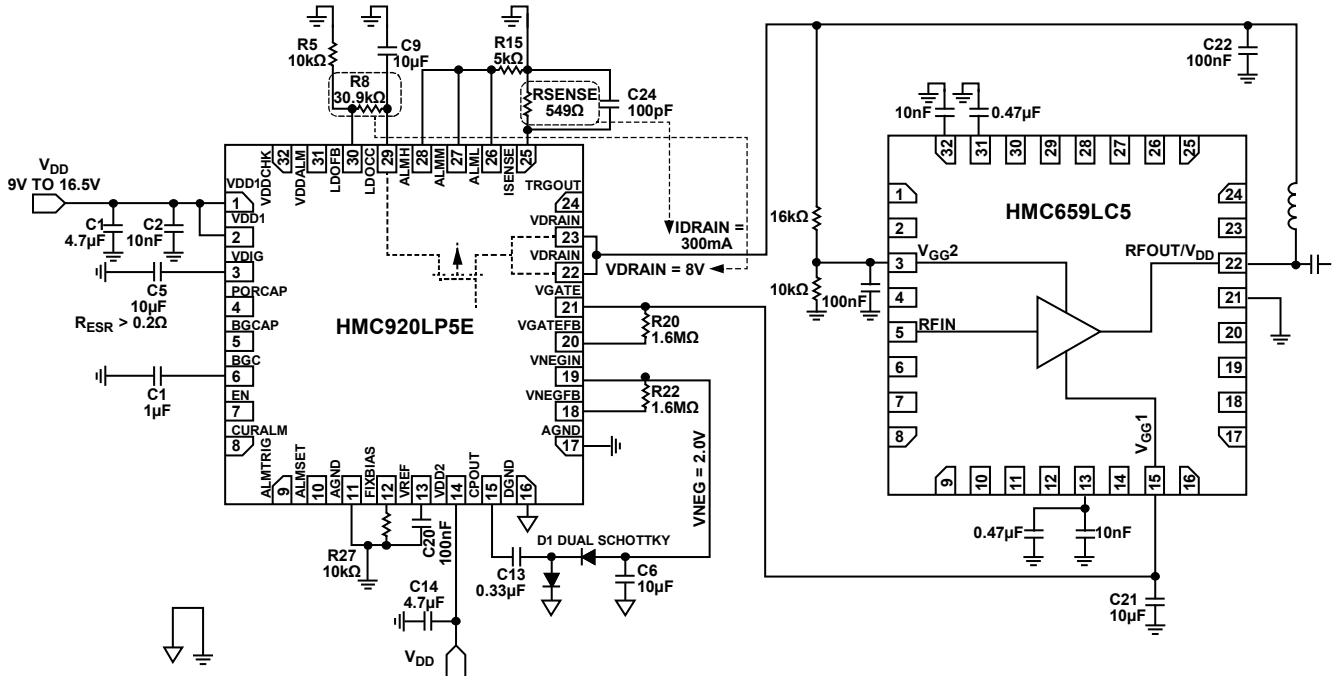

Figure 29. Application Circuit for Biasing the HMC659LC5 with the HMC920LP5E
- The shunt V_{GGX} capacitor values can be reduced to increase the rise time (see HMC659LC5 in Figure 29). Refer to the Reducing VGATE Rise Time section for further details.